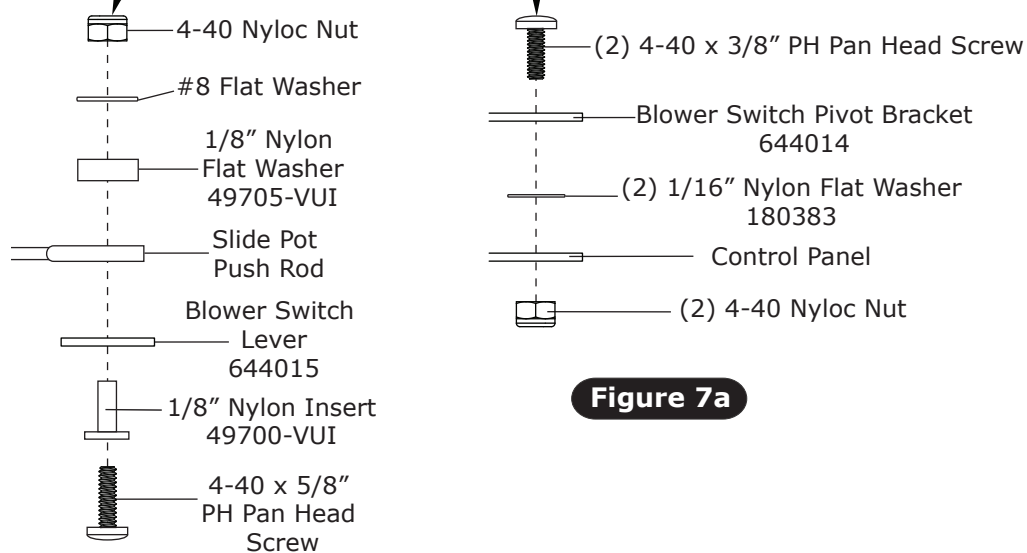

Figure 7a
2. Install blower switch pivot bracket assembly onto control panel as shown in Figure 7a, below.